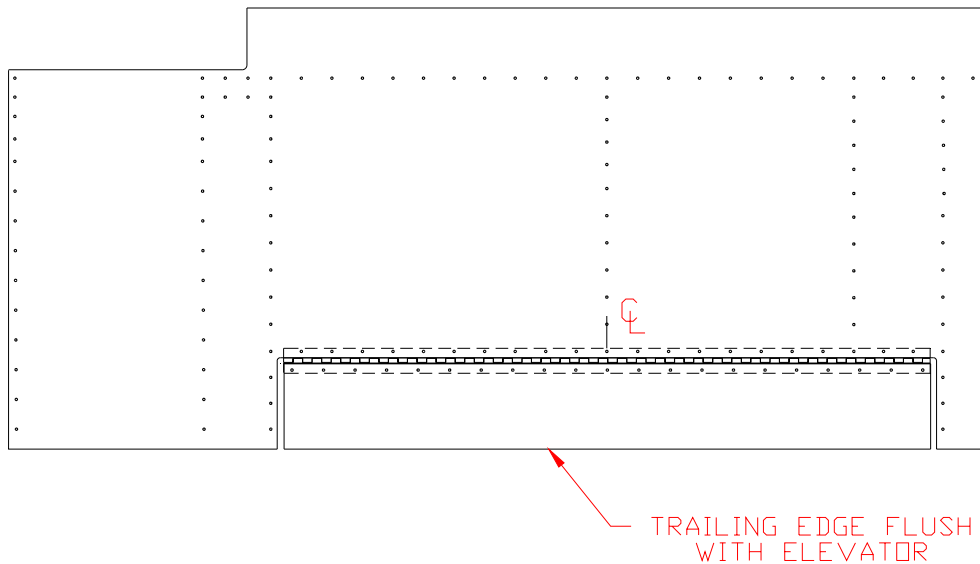

Figure 3.5.5
25) Connect the second half of the Hinge to the first with a Hinge pin. Center the Elevator Trim Skin in the gap and drill the #40 holes into the Hinge from the Elevator Trim Skin. Figure 3.5.5.